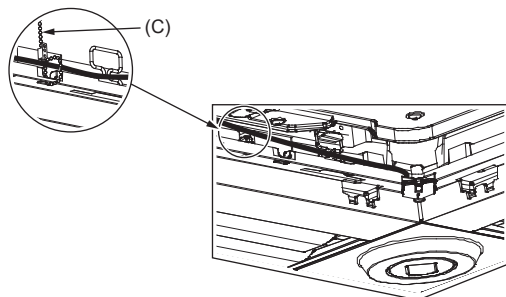

Fig. 10-12
- Secure the i-see Sensor and signal receiver wires to the panel with the fastener as shown in the diagram so that there is no slack in the wires, and then cut off the excess end of the fastener. (Fig. 10-12)
- If the position of the i-see Sensor was changed from the "o" position (E) to the "□" position (F), change the function settings. (Refer to page 15.)